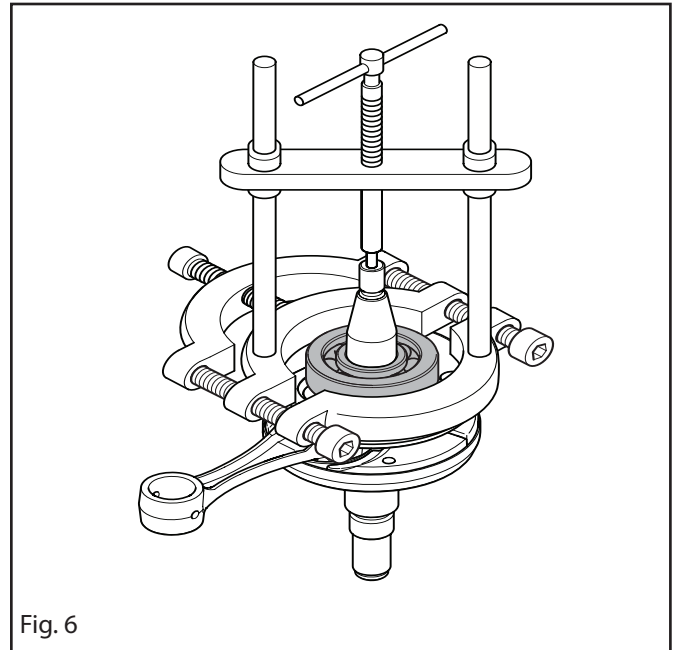

Fig. 6
7. That the intake manifold and it's rubber seals are undamaged. See figure 6.
7. If the crankshaft bearing remains on the crankshaft, remove it with the Puller tool. See figure 6.